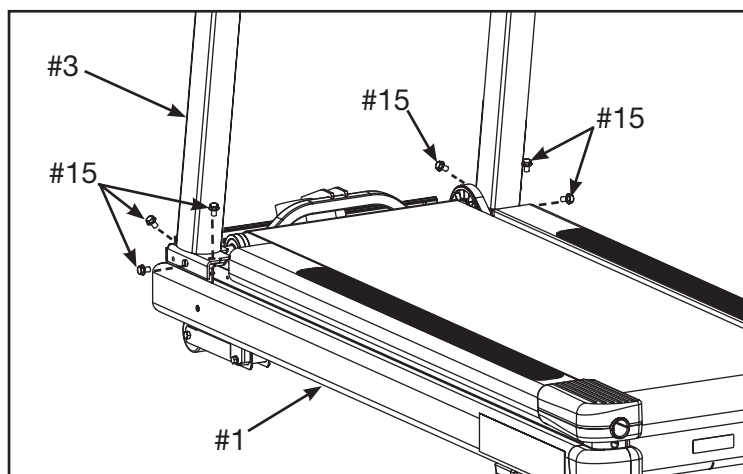

Figure 4
- D. Carefully lift the upright assembly (#3) into the proper location. See Figure 4.
- E. Using a 9/16" socket wrench, secure the upright assembly (#3) to the base assembly (#1) with six bolts, 3/8-16 x .625" (#15). See Figure 4.